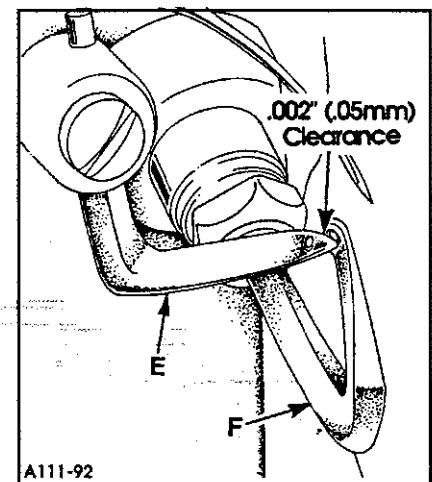

Fig. 11
3. Rotate the handwheel in operating direction. As the looper/spreader (E, Fig. 11) moves from right to left, the point of the upper looper or the thread pick-up of the upper spreader must pass behind the notch of lower looper (F) with a .002" (.05mm) clearance.